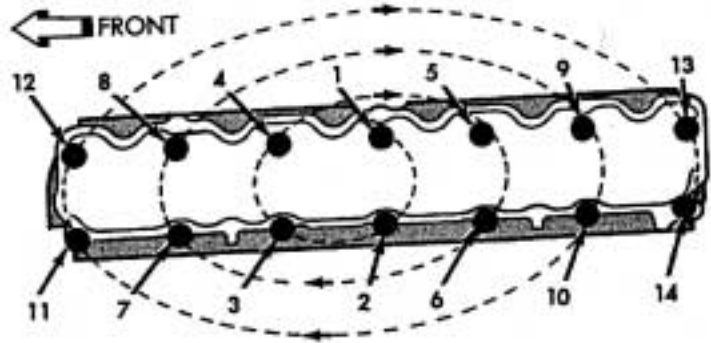

Figure 19
70. Install the head bolts. Be sure to apply Mopar Thread Sealant (P/N 04318034) or equivalent to head bolt number 11 (Figure 19).
- Tighten all bolts in sequence to 22 ft. lbs. (30 N·m) (Figure 19).
- Tighten all bolts in sequence to 45 ft. lbs. (61 N·m) (Figure 19).
- Check all bolts to verify they are set to 45 ft. lbs. (61 N·m) (Figure 19).
- a. Bolts 1 through 10 to 110 ft. lbs. (149 N·m) (Figure 19).
- b. Bolt 11 to 100 ft. lbs. (135 N·m) (Figure 19).
- c. Bolts 12 through 14 to 110 ft. lbs. (149 N·m) (Figure 19).